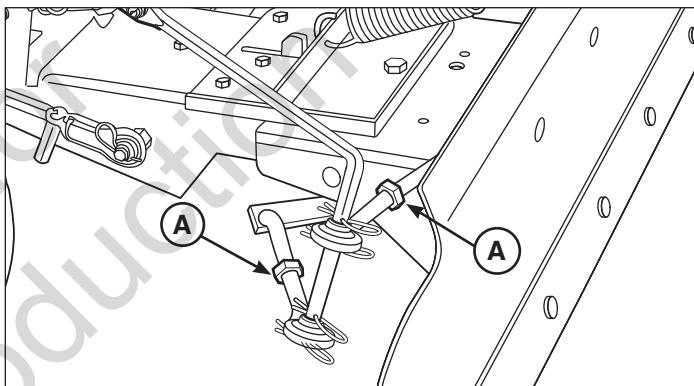

Figure 19
6. Tighten ball joint locking nuts (**A**, Figure 19).